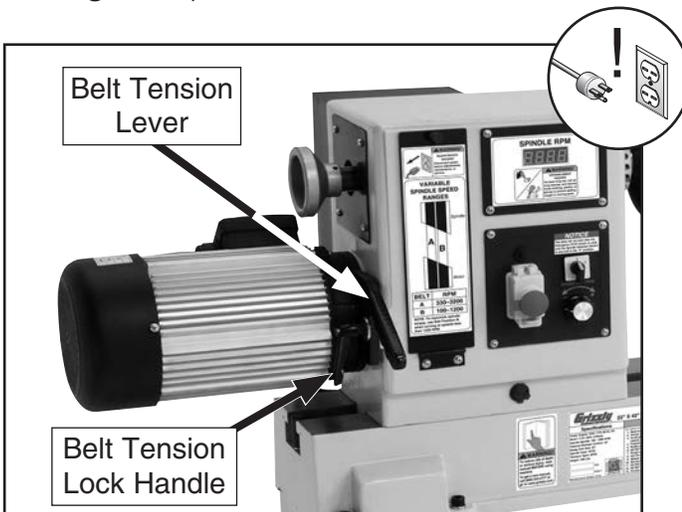

Figure 60. Location of belt tension lever and belt tension lock handle.
3. Loosen belt tension lock handle (see **Figure 60**).
4. Use belt tension lever (see **Figure 60**) to lift motor assembly all the way up, then re-tighten motor tension lock handle—this will hold motor in place while you change belt position.